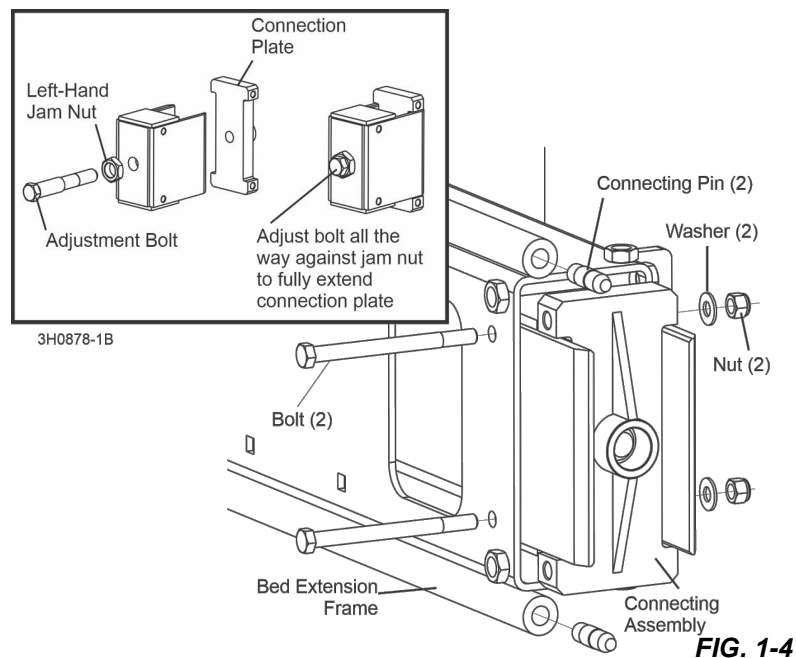

FIG. 1-4
5. Insert a connecting pin into the top and bottom rails of the extension. **See Fig. 1-4.**